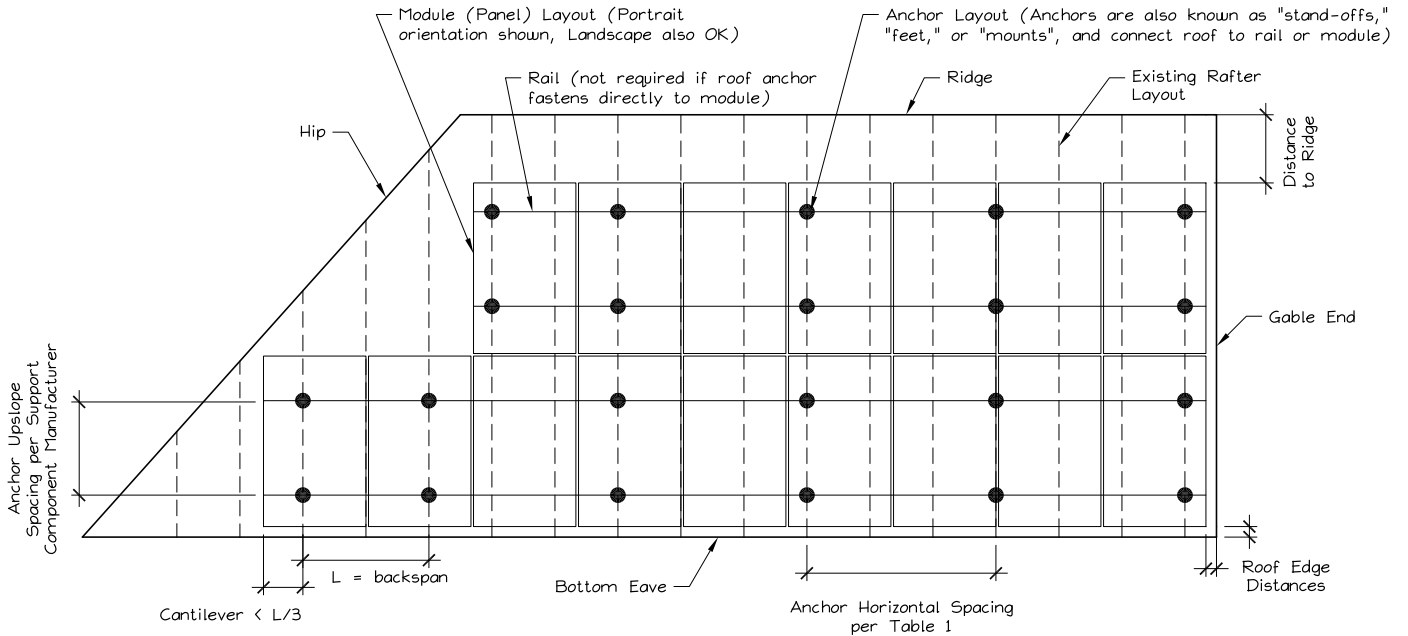

Figure 2. Sample Solar Panel Array and Anchor Layout Diagram (Roof Plan).
E. Is a roof plan of the module and anchor layout attached? (see Figure 2)
- 1) Proposed anchor horizontal spacing (see Figure 2): ' - "ft-in
1. Anchors are also known as "stand-offs," "feet," "mounts" or "points of attachment." Horizontal anchor spacing is also known as "cross-slope" or "east-west" anchor spacing (see Figure 2).